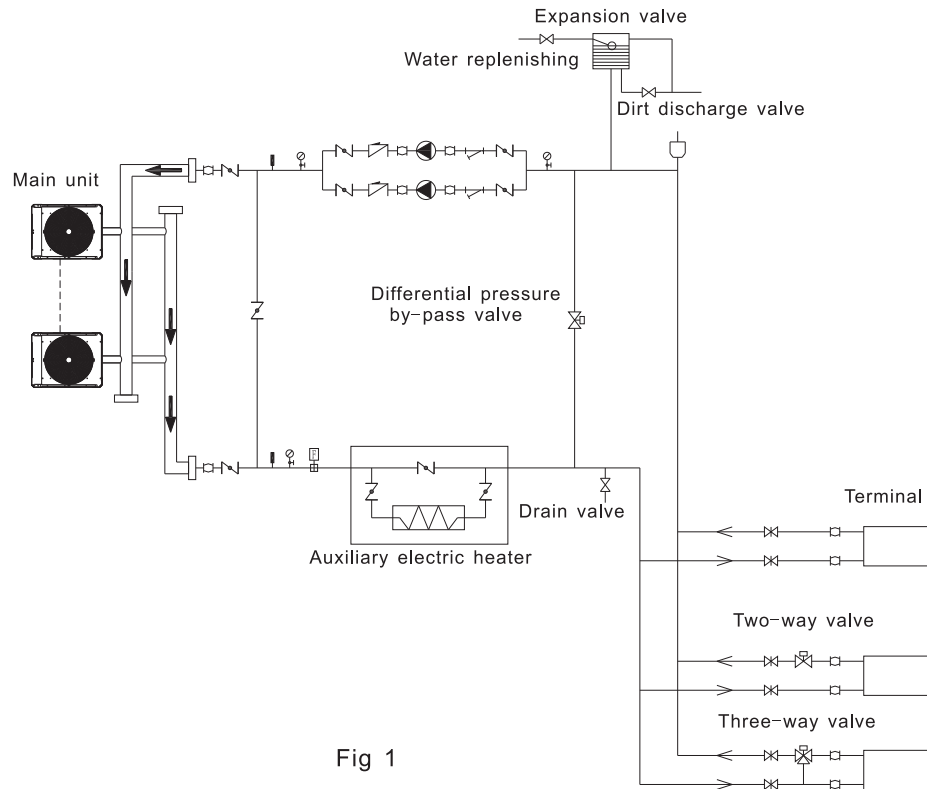
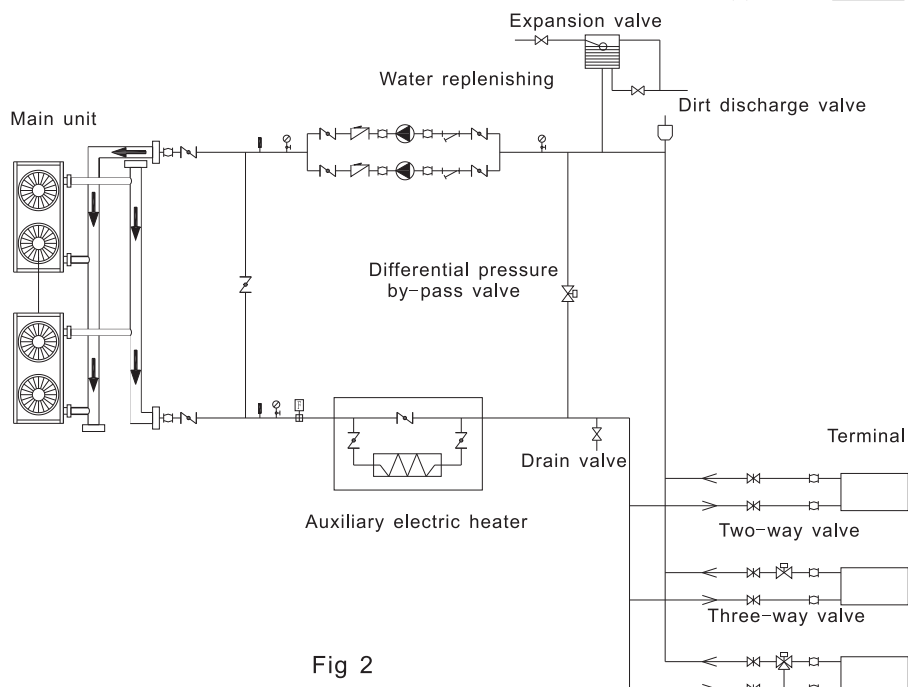
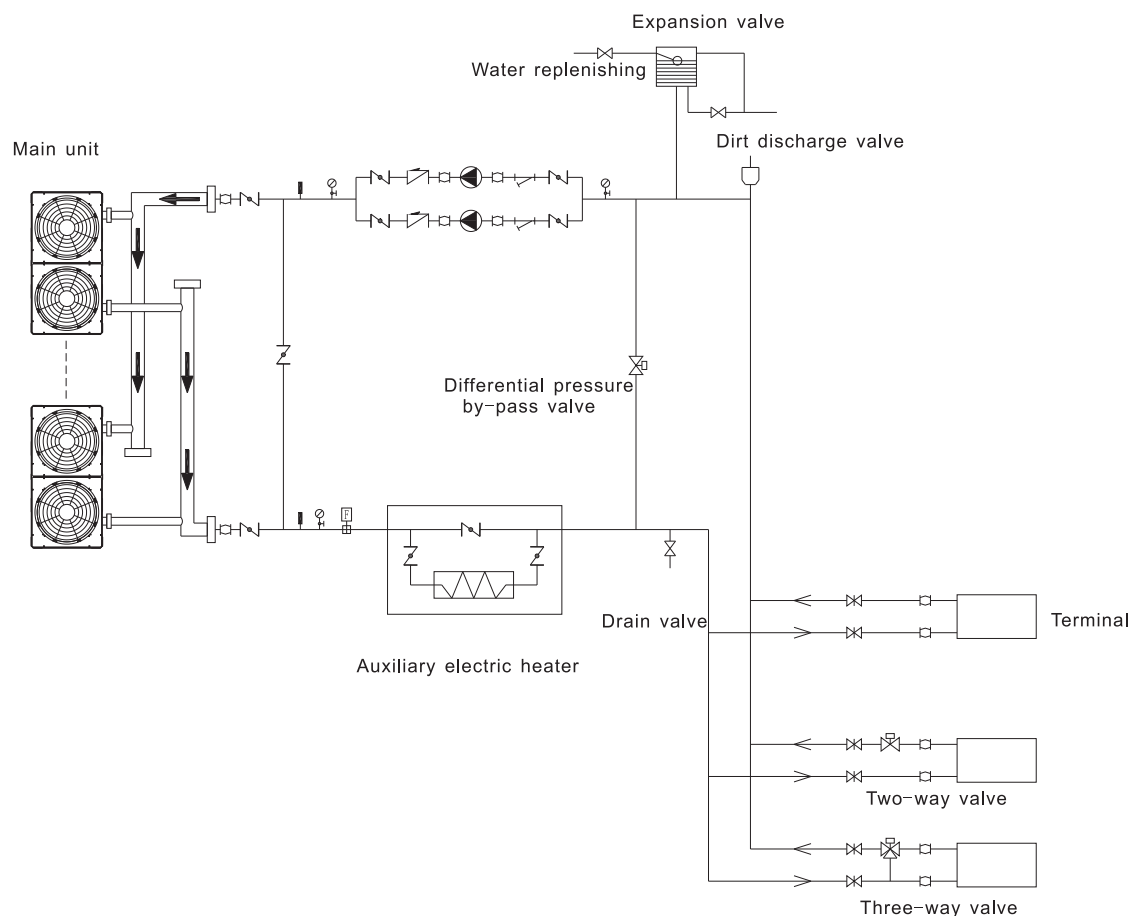

Fig 1
Fig 2
Fig 3
- h. The by-pass pipes and by-pass valves as shown in Fig. 1, Fig 2 and Fig 3 must be mounted for the heat exchanger, to facilitate cleaning of the outside system of water passage before the unit is adjusted. During maintenance, the water passage of the heat exchanger can be cut off without disturbing other heat exchangers.